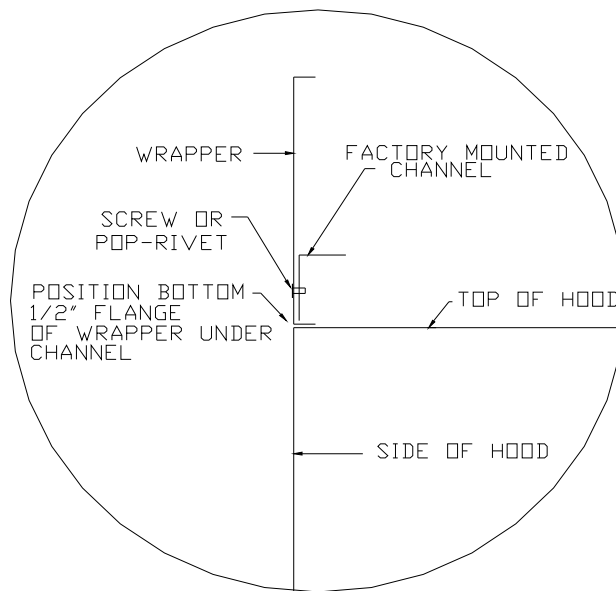
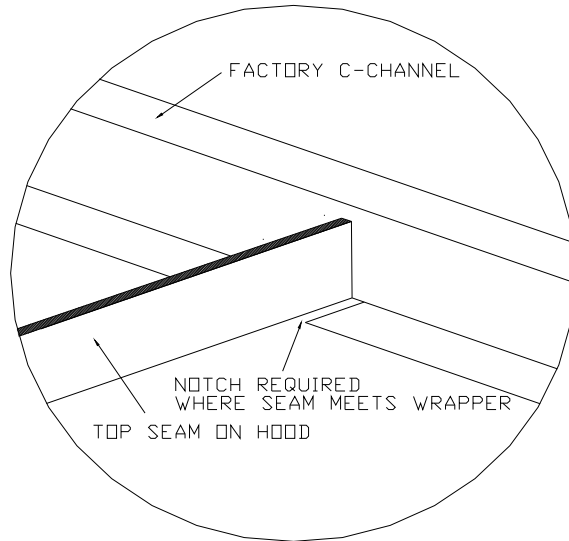

Figure 14A
Figure 14B
2. Locate one of the side wrapper panels and position it on the hood so that the 1/2" flange on the bottom of the panel slips underneath the side channel on top of the hood. **See Figure 14A: Wrapper Detail.** NOTE: A notch will have to be cut on the wrapper flange using shears (tin snips) where interference occurs, where applicable. **See Figure 14B: Top Hood Seam Detail.**